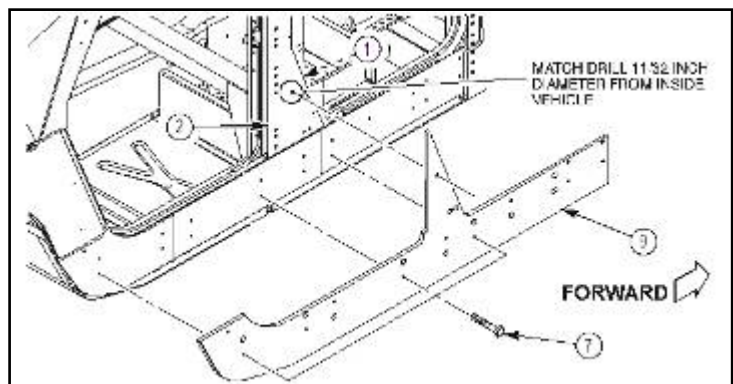

Figure 31a
1. Temporarily install existing right side rocker panel aluminum overlay (9) using three 4397001-072 or 4397001-073 capscrews (7) as shown in figure 31a. Clamp overlay (9) in place and match drill one 11/32 inch diameter hole from inside sail panel (1) through B-pillar plate (2) and overlay (9).
2. Remove clamp, right side rocker panel aluminum overlay (9), and three capscrews (7). Refer to figure 31a.
4. Install 6435007-01M1 or 6435007-200M1 right rocker panel IED overlay (8) and existing right side rocker panel aluminum overlay (9) with two 4397001-072